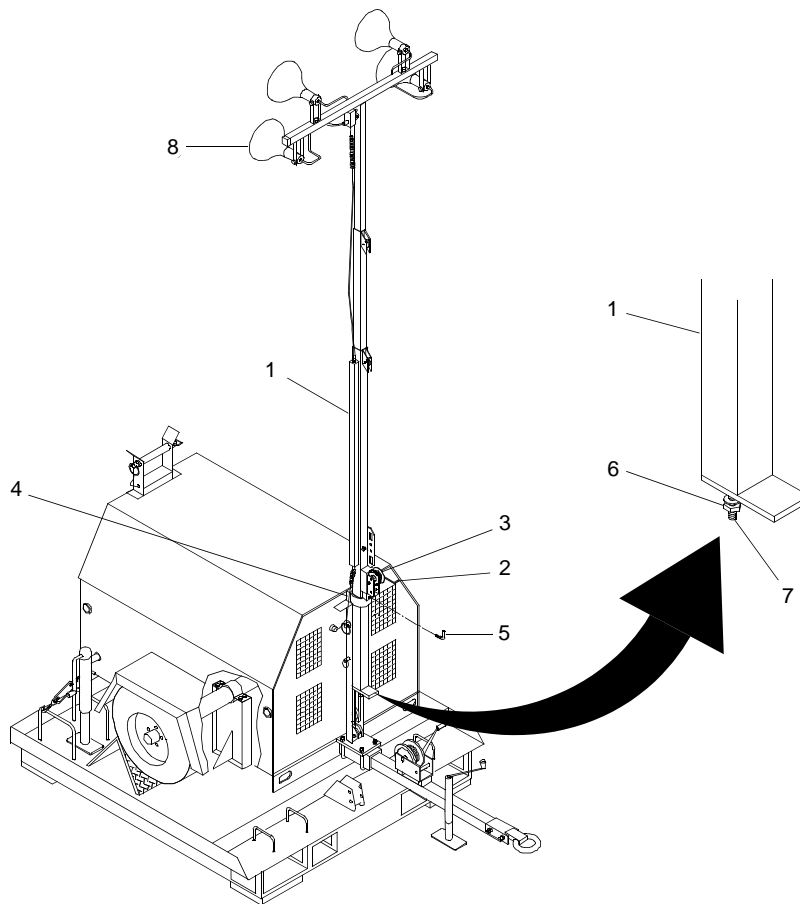

Figure 9. Extending the Tower
46. With tower (figure 9, item 1) in vertical position, turn hand crank (figure 9, item 2) on tower winch (figure 9, item 3) clockwise to extend tower (figure 9, item 1) to approximately 28 ft above pivot support (figure 9, item 4) collar.
47. Loosen bolt (figure 9, item 5) on pivot support (figure 9, item 4) collar and tower pivot support nut (figure 9, item 6) on base stud (figure 9, item 7) of tower (figure 9, item 1) to rotate tower (figure 9, item 1) for aiming lights (figure 9, item 8) to desired location.
48. Tighten bolt (figure 9, item 5) and tower pivot support nut (figure 9, item 6).
49. If adjustment of lights (figure 9, item 8) is necessary, repeat step 37 through step 40.